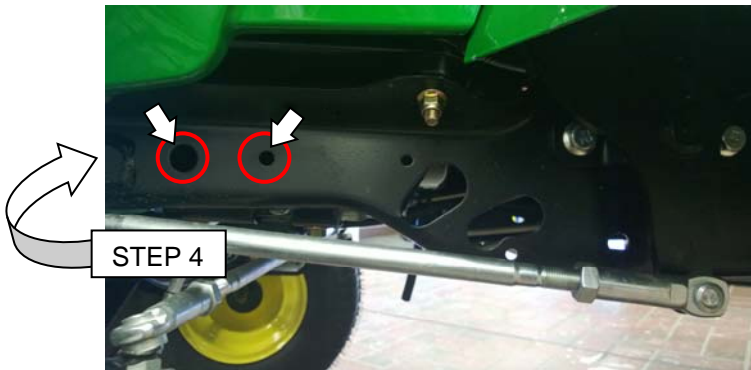

Figure 2
- 4) Place one inner keeper (8) against the inside surface of LH machine frame plate (**Figure 2**). Align holes with 1/2" and 3/4" holes.